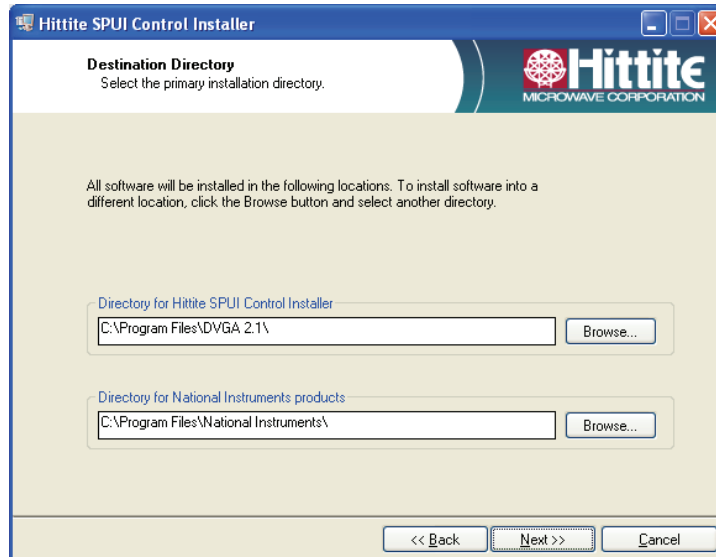

Figure 8. Software Installation Screen 2.
4. Once the installer finishes initializing, the screen in Figure 8 will appear. Leave all directory